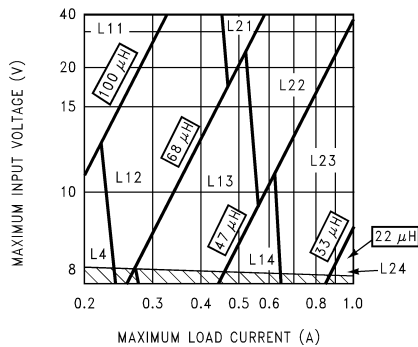
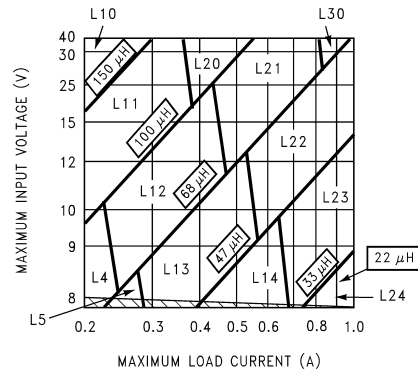
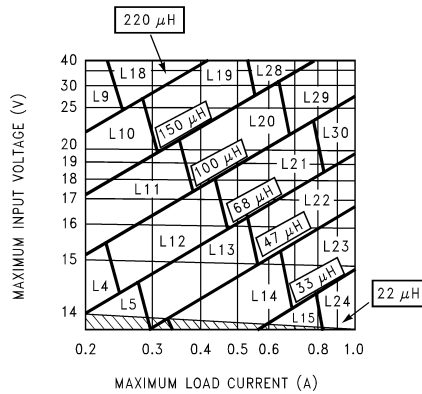

Figure 24. LM2675-3.3
Figure 25. LM2675-5.0
Figure 26. LM2675-12
A. Select the correct inductor value selection guide from Figure 24 , Figure 25 or Figure 26 (output voltages of 3.3V, 5V, or 12V respectively). For all other voltages, see the design procedure for the adjustable version.	A. Use the inductor selection guide for the 5V version shown in Figure 25 .
B. From the inductor value selection guide, identify the inductance region intersected by the Maximum Input Voltage line and the Maximum Load Current line. Each region is identified by an inductance value and an inductor code (LXX).	B. From the inductor value selection guide shown in Figure 25 , the inductance region intersected by the 12V horizontal line and the 1A vertical line is 33 μ H, and the inductor code is L23.